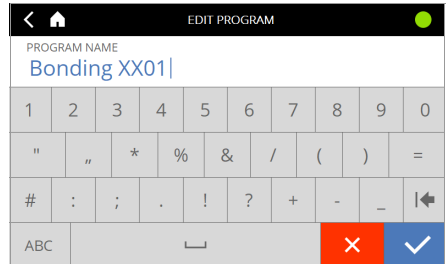

Fig. 54
- ▶ Assign and confirm a new name (Fig. 54).